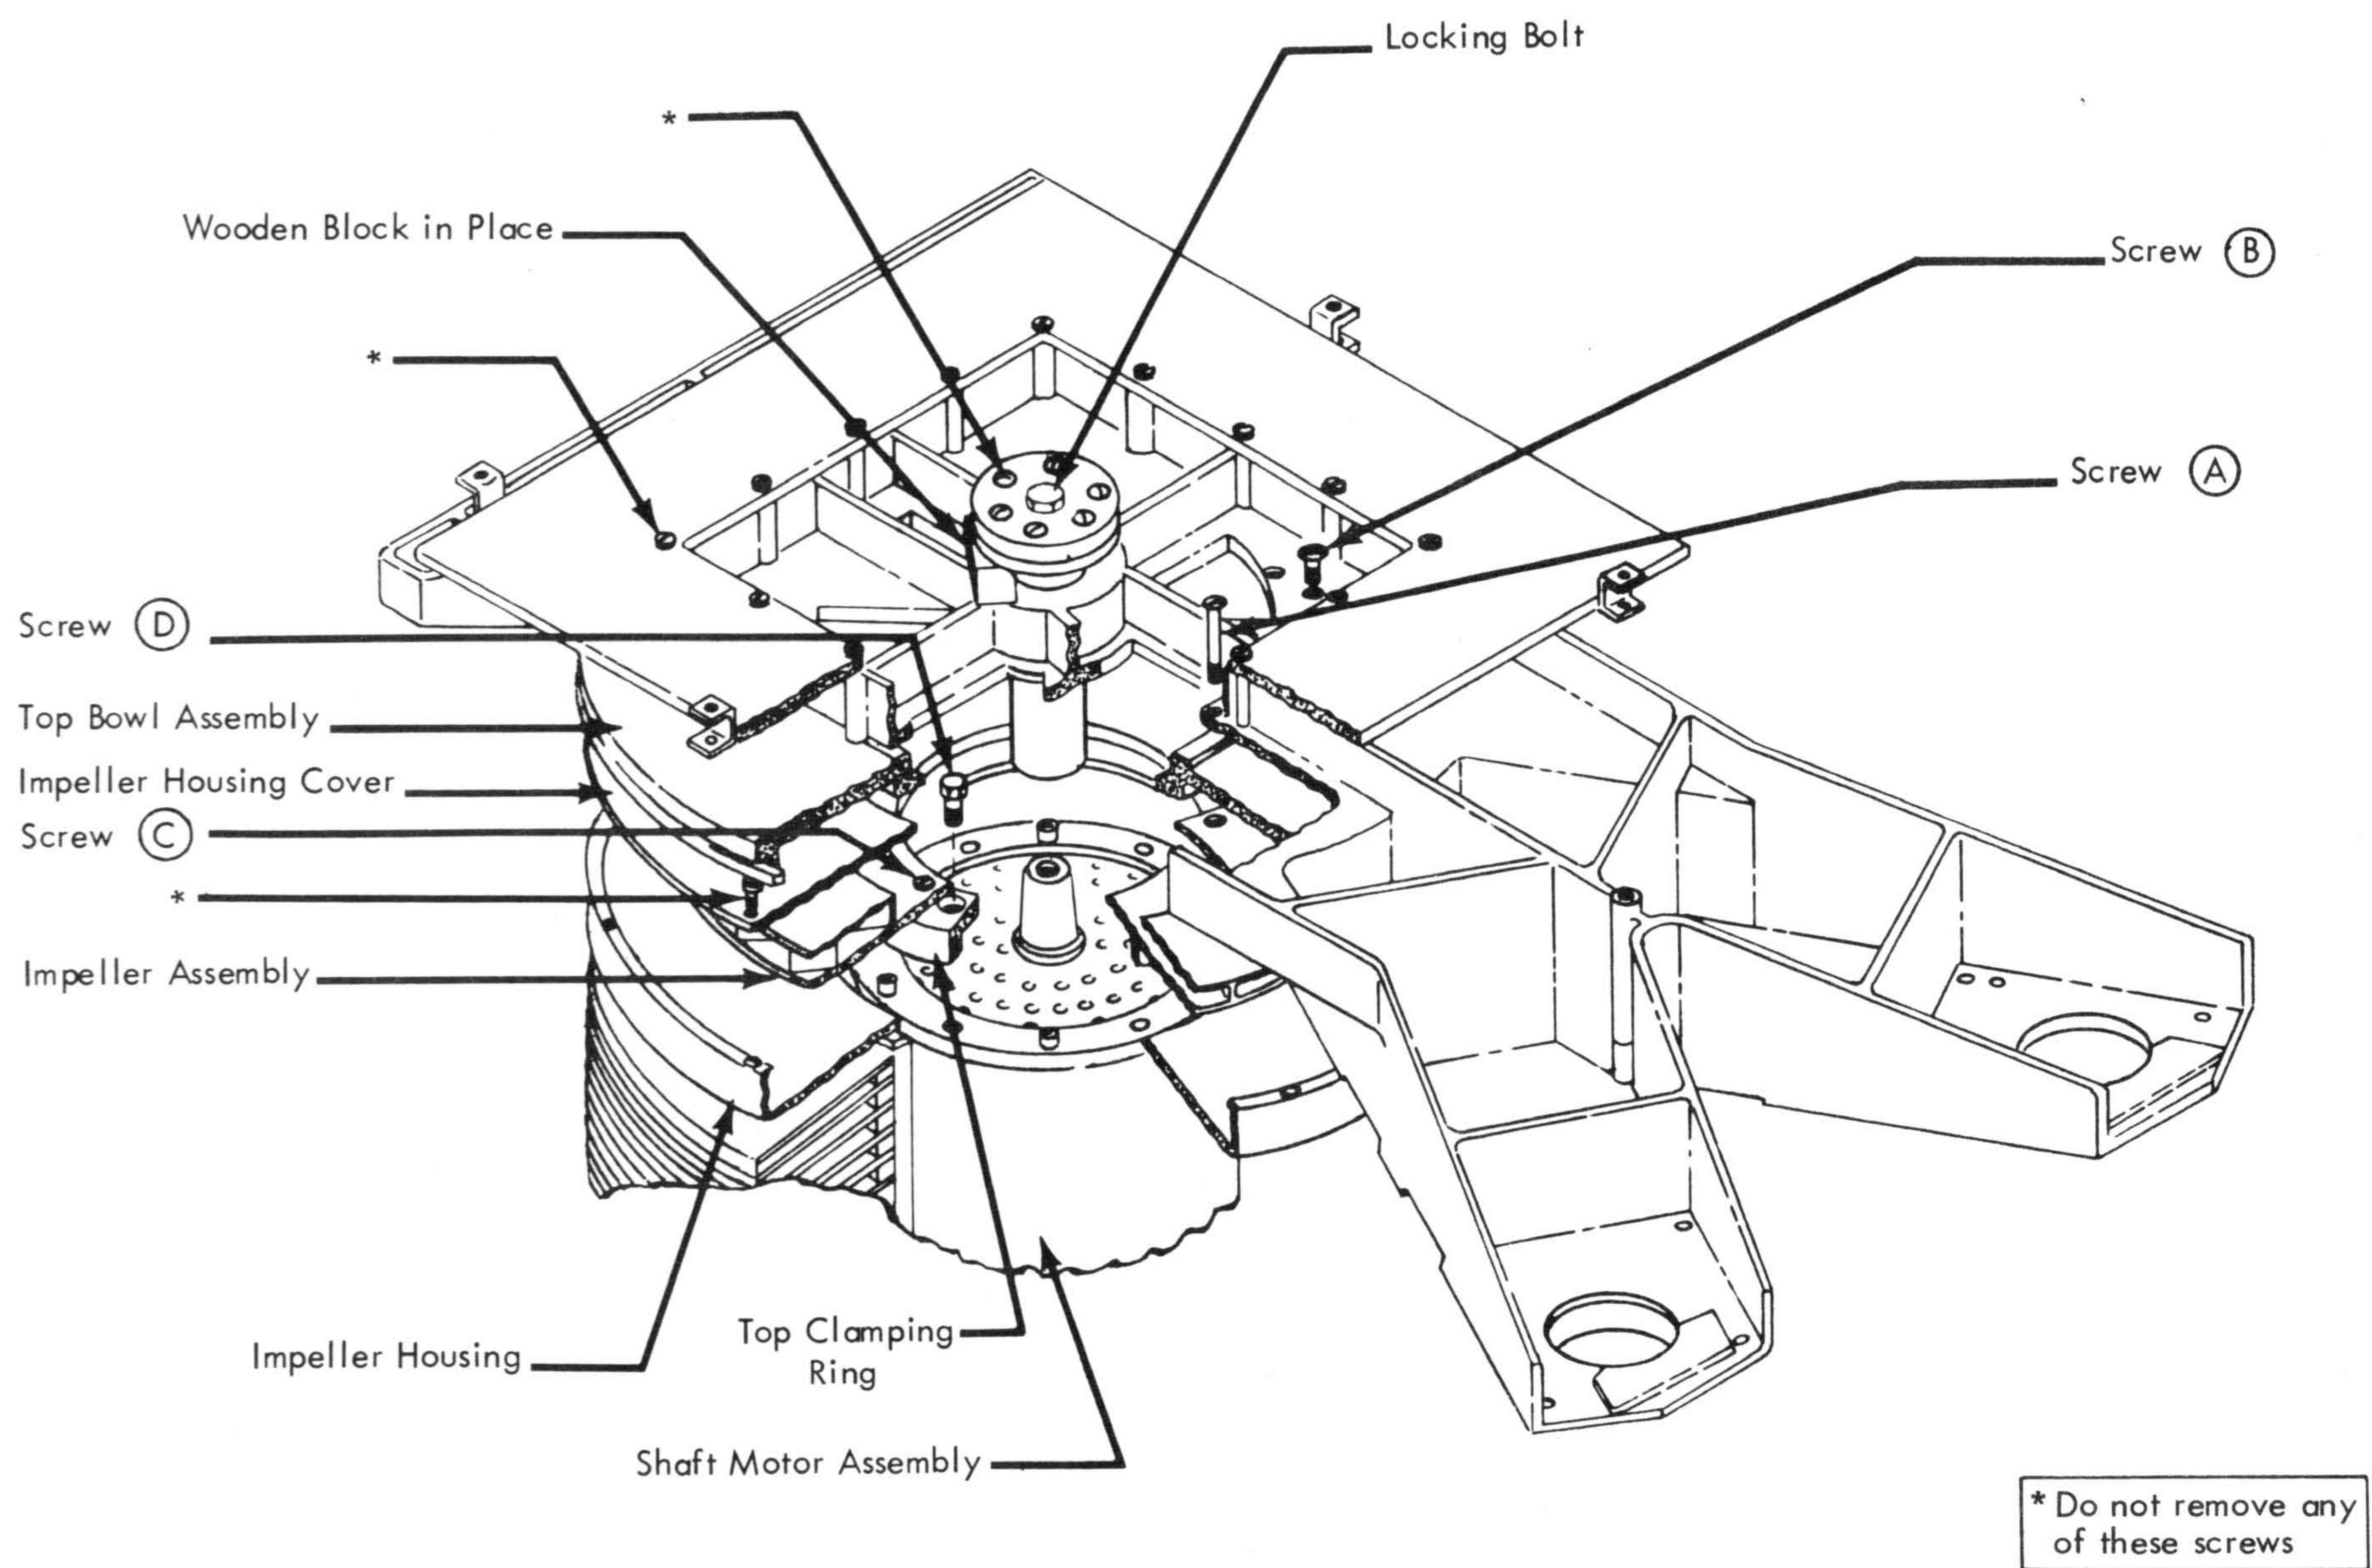
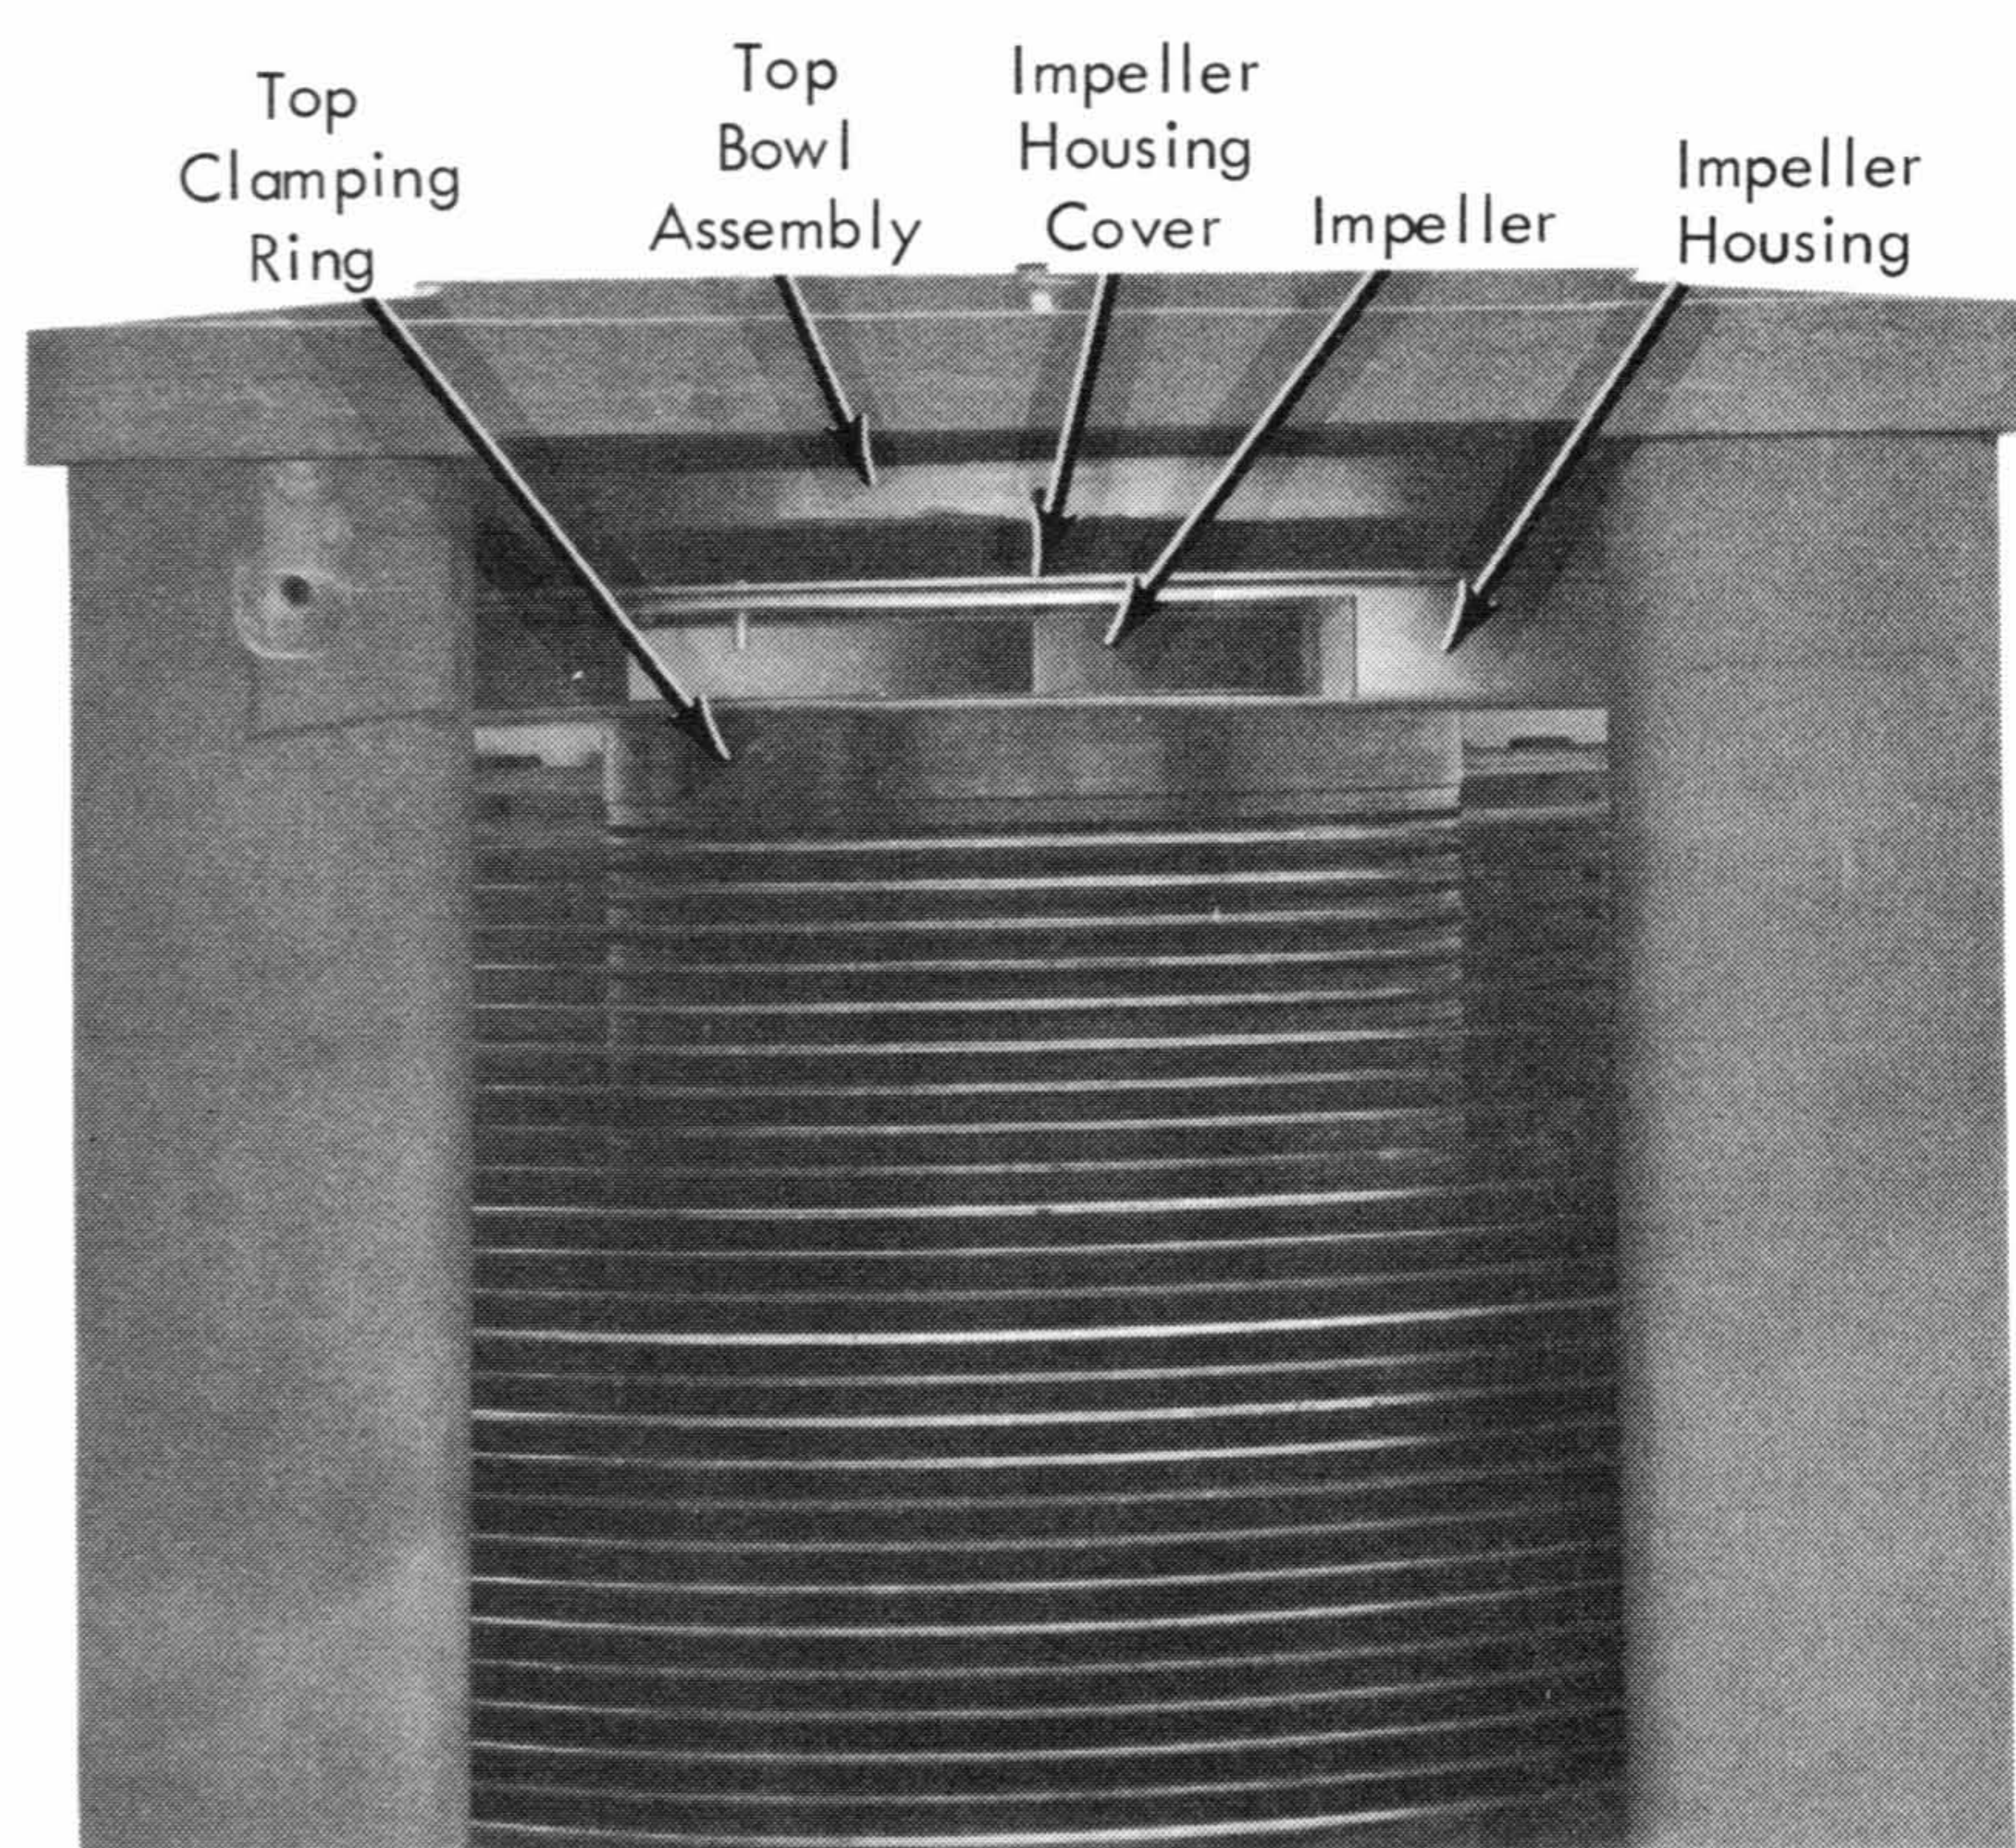

Figure 2-10. Disk Array Disassembly
Figure 2-11. Disk Array Assembled
13. Remove the six screws (Item Ⓐ Figure 2-10) which fasten the impeller housing assembly to the top casting.
14. Remove four screws (Item Ⓑ Figure 2-10) which fasten top bowl assembly to top casting. Remove top bowl through front of the machine (Figure 2-11).
15. Remove four screws (Item Ⓒ Figure 2-10) which fasten impeller to top clamping ring. The impeller housing cover, impeller housing, and impeller can be removed through the front of the machine as an assembly (Figure 2-11).
16. Remove the six disk clamping ring screws (Item Ⓓ Figure 2-10) and the clamping ring.